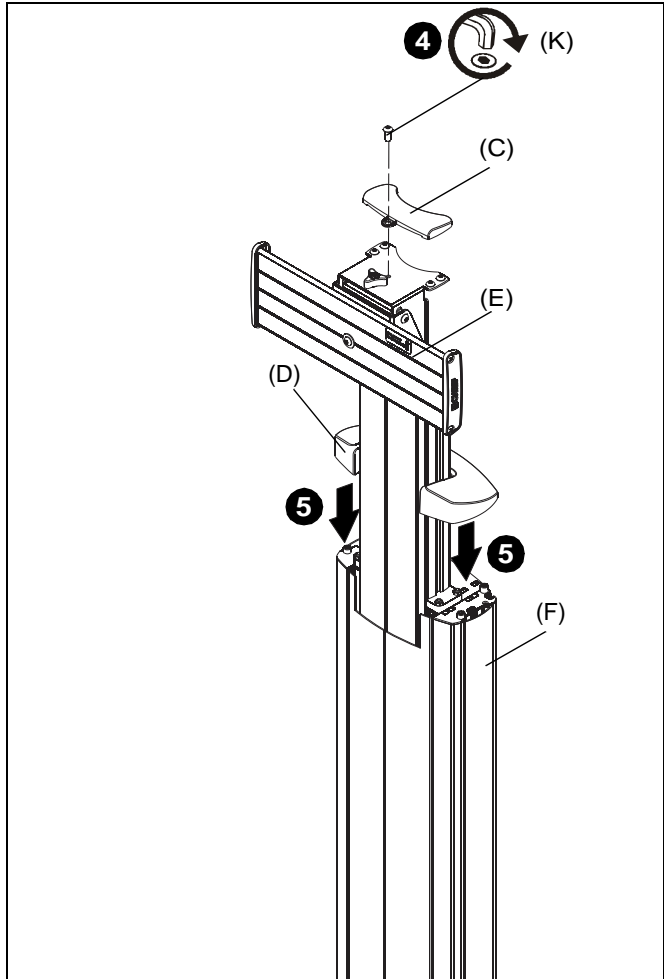

Figure 3
4. Use remaining 5/16-18 x 3/4" button head cap screw (K) to secure column upper cover (C) to interface head assembly (E). (See Figure 3)
5. Snap column inner cover (D) onto column assembly (F). (See Figure 3)